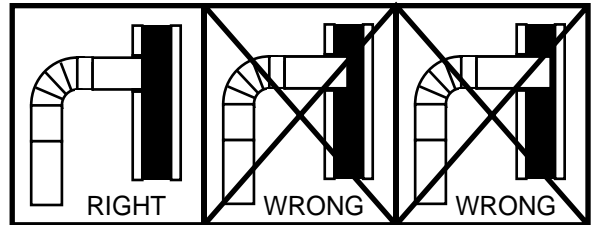

Fig. 6
4. The chimney connector must not extend into the chimney flue. (See Fig. 6)
1. The connector pipe may be pushed into the chimney too far, stopping the draft (Fig. 6)